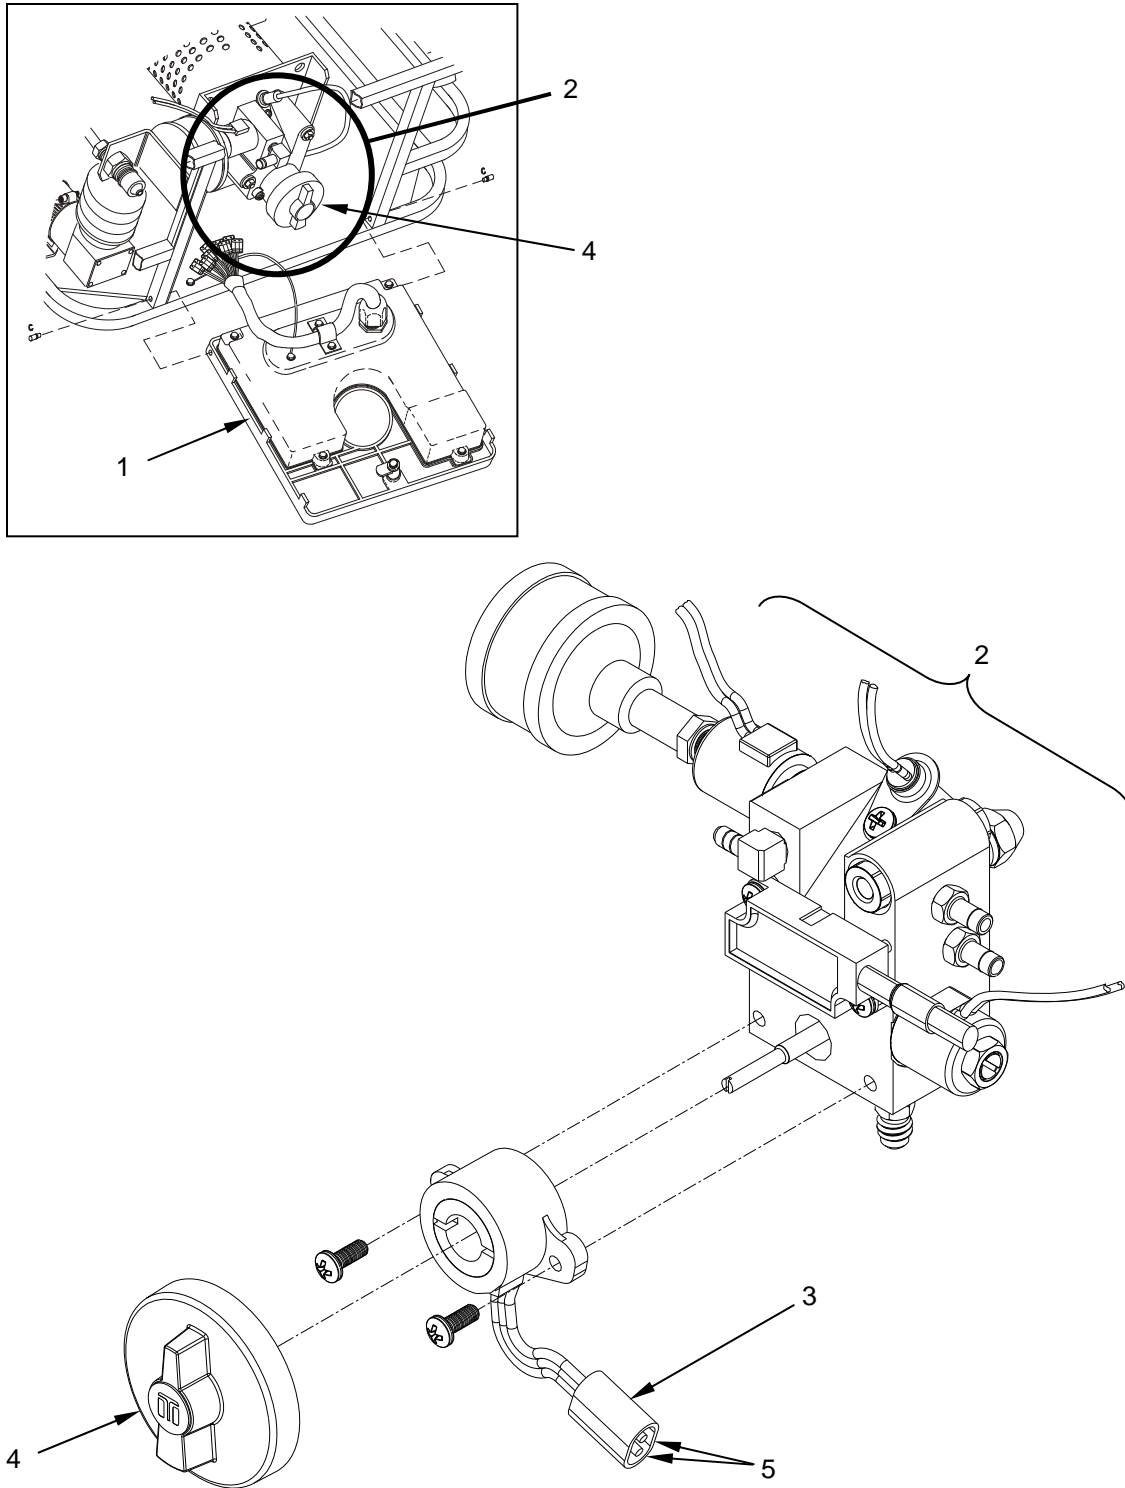

Figure 3. Test the Feedback Potentiometer (MBU only).
3. Disconnect the feedback potentiometer wiring connector (Figure 3, Item 3) by separating the connector at the end of the harness.
4. Turn the control knob (Figure 3, Item 4) fully counterclockwise.
5. Use a multimeter to test for resistance between the two disconnected leads (Figure 3, Item 5).
- b. Connect the red test lead plug to the input terminal labeled for use with volts (V) and ohms (Ω). Your multimeter may have other symbols on this terminal but should at the least have the (V) and (Ω) symbols.
6. Turn the control knob (Figure 3, Item 4) fully clockwise.